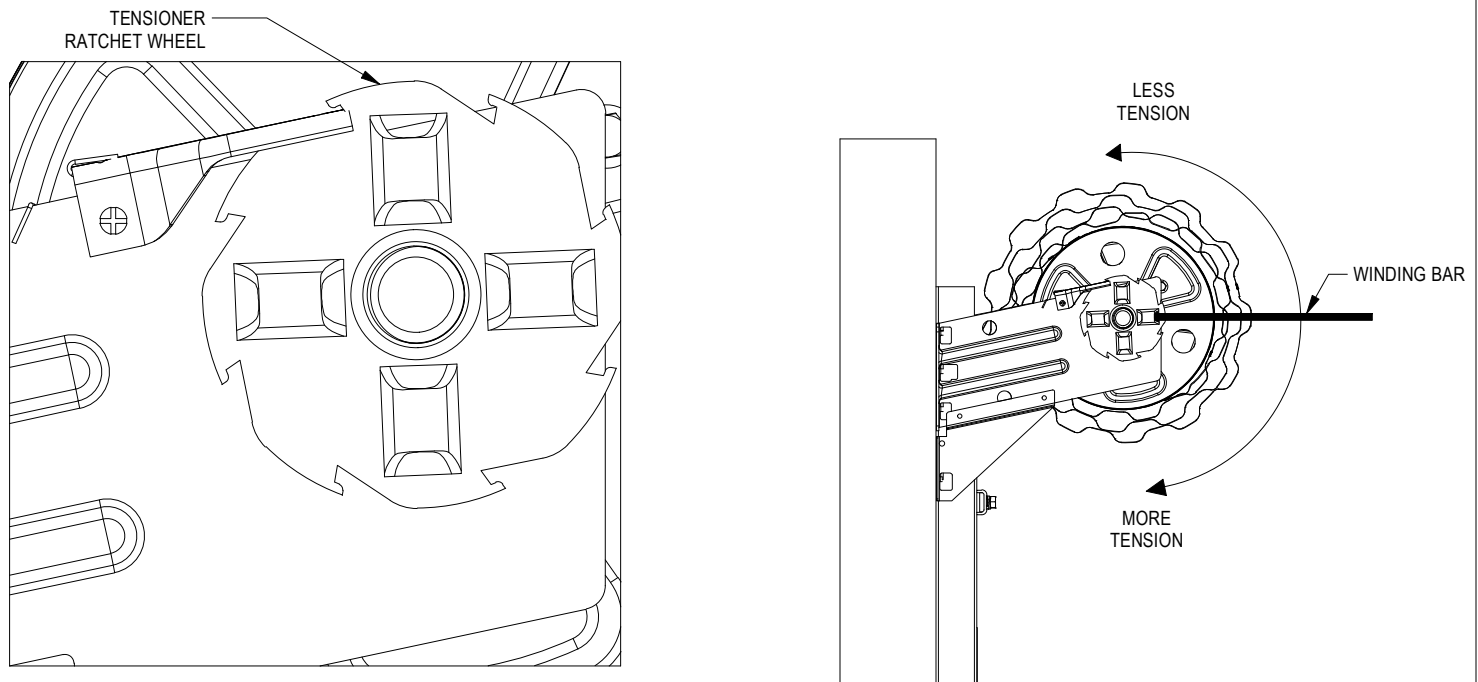

FIGURE 18:
- If door is easy to close but difficult to open, increase spring tension. **See Figure 18, on Page 12.**
- If door is difficult to close but easy to open, decrease spring tension. **See Figure 18, on Page 12.**
MANUAL ADJUSTMENTS OF SPRING TENSION MAY BE REQUIRED. ADJUSTMENTS ARE TO BE MADE USING A 3/8" DIAMETER WINDING BAR. WHEN MAKING ADJUSTMENTS, ENSURE TENSIONER PAWL IS FULLY ENGAGED WITH TENSIONER RATCHET WHEEL TOOTH BEFORE REMOVING WINDING BAR FROM IT. **SEE FIGURE 18** FOR VISUAL REFERENCE.